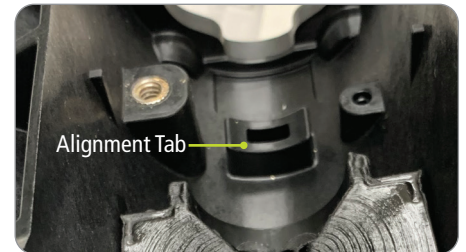

Figure 19
2. Lower CAU to base and engage alignment tab. (Figure 19)